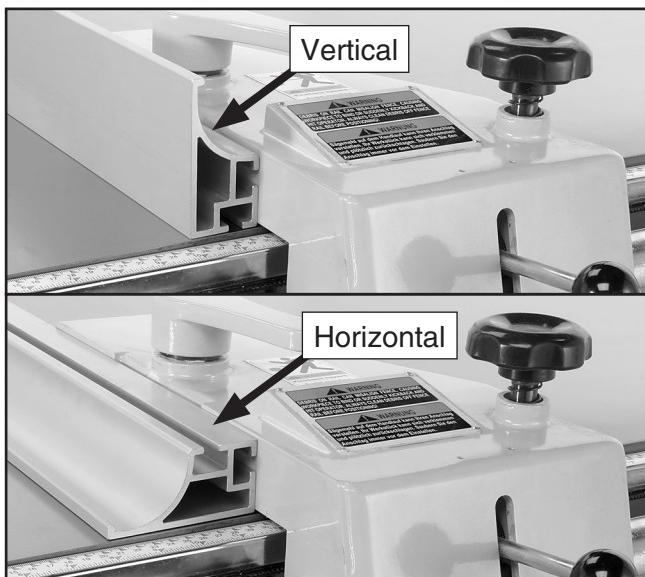

Figure 54. Rip fence positions.
3. Place the rip fence in the vertical position for larger workpieces or in the horizontal position for angled cuts and operations with thin workpieces (see **Figure 54**).